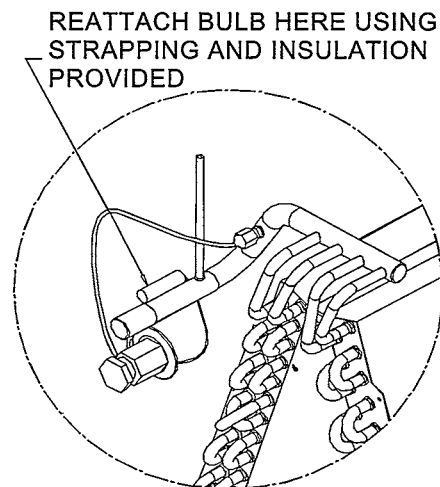

Figure 3
IMPORTANT NOTE: In order to prevent damage to the sensing bulb, it is not permanently installed in the factory. This bulb is to be removed prior to brazing. Place in proper location after braze joint has cooled (Figure 3).
10. Replace sensing bulb to horizontal portion of suction line (Figure 3) just inside cabinet. Place bulb parallel with suction line in the 10 o'clock position. If 10 o'clock position is inaccessible, place in the 2 o'clock position. Secure bulb to line with strapping provided in literature envelope. Insulate sensing bulb to line with self-adhesive insulation provided in envelope.